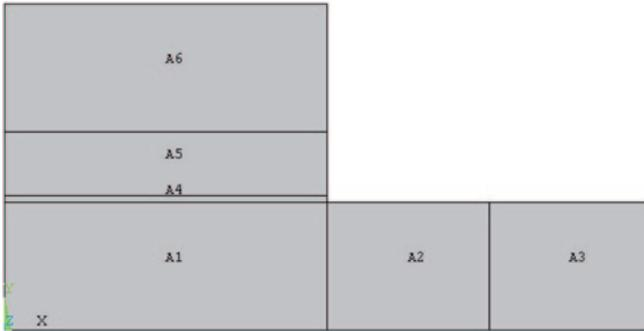

Fig. 9.49 Solid model of the electronic device with area numbers turned on
- Create rectangles as identified in Fig. 9.49 (**RECTNG** command) using the following menu path: